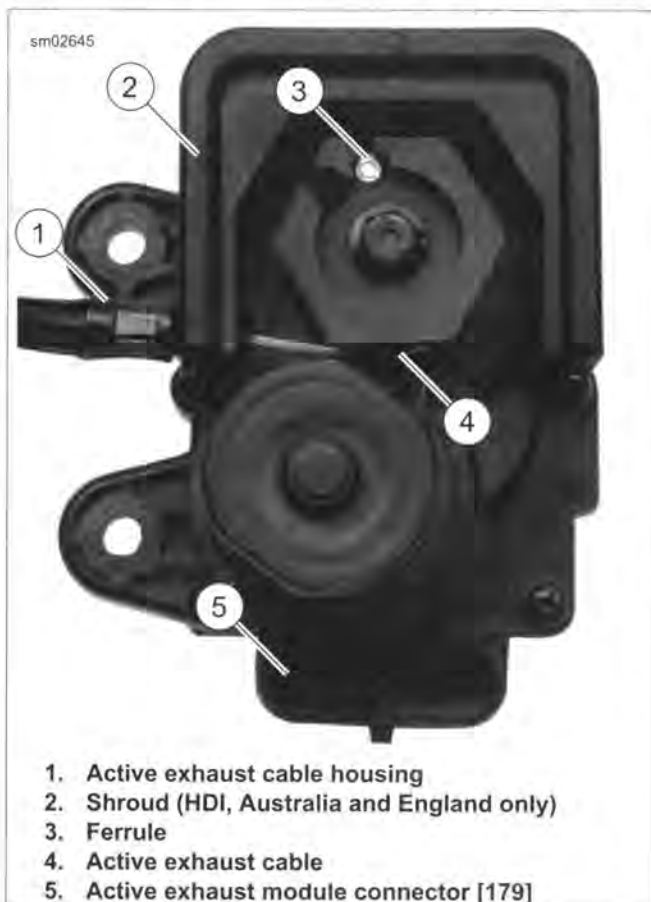
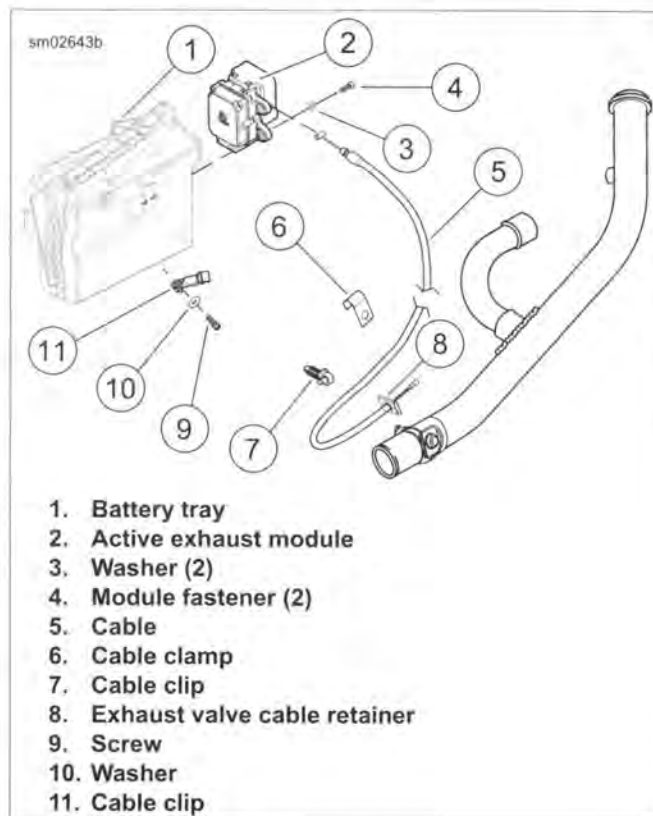
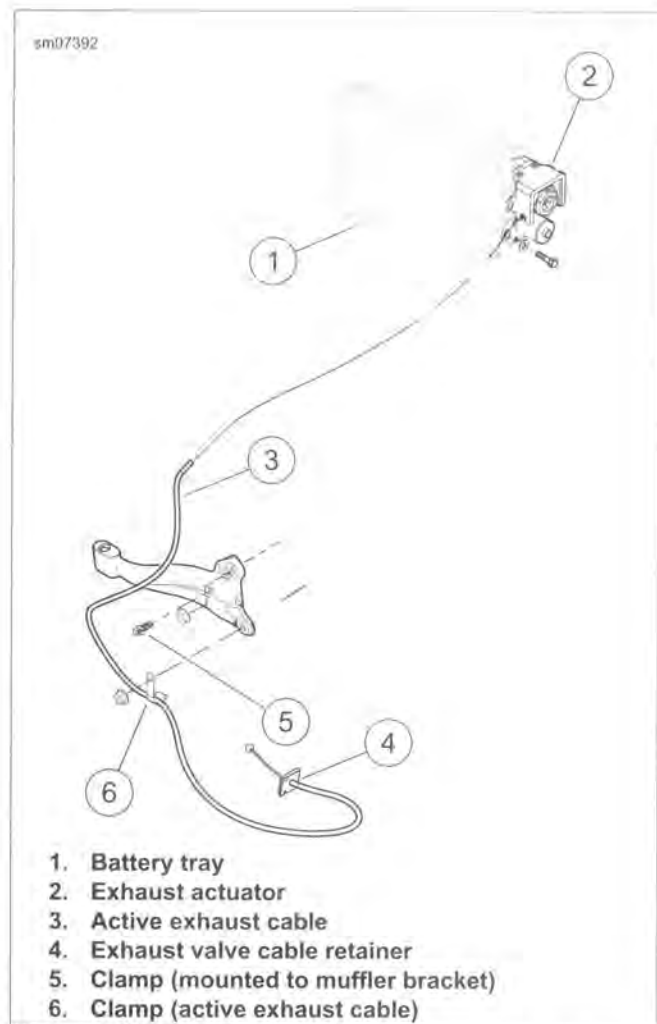

Figure 7-89. Active Exhaust Module
Figure 7-90. Active Exhaust
Figure 7-91. Active Exhaust Cable Retention: All HDI Models with Dual Exhaust Only
1. See Figure 7-89. Remove active exhaust cable housing (1) from notch in shroud (2). Remove ferrule (3) from active exhaust module to remove cable (4).
2. See Figure 7-90. Remove module fasteners (4) and washers (3) from battery tray (1).
3. Remove cable (5) from cable clip (7), cable clamp (6) and exhaust valve cable retainer (8).
4. **All but FXDF and FXDWG:** Remove screw (9), washer (10) and cable clip (11) from under battery tray.
See Figure 7-89. Shroud (2) can be replaced. Replace shroud if active exhaust cable housing (1) is a loose fit in shroud.
1. Remove fasteners securing shroud (2).
1. See Figure 7-89. Install ferrule (3) into slot shown. Wrap cable counterclockwise around active exhaust module shroud as shown.
2. Clip cable housing into shroud (2).
4. See Figure 7-90. Install module fasteners (4) and washers (3). Tighten to 36-60 in-lbs (4.0-6.8 Nm).
5. **All but FXDF and FXDWG:** Mount cable clip (11) with screw (9) and washer (10) to underside of battery tray. Tighten to 24-48 **in-lbs** (2.7-5.4 Nm).
6. See Figure 7-91. After installation, make sure that active exhaust cable is routed correctly. Cable must not contact the exhaust pipe, battery cover or transmission case.